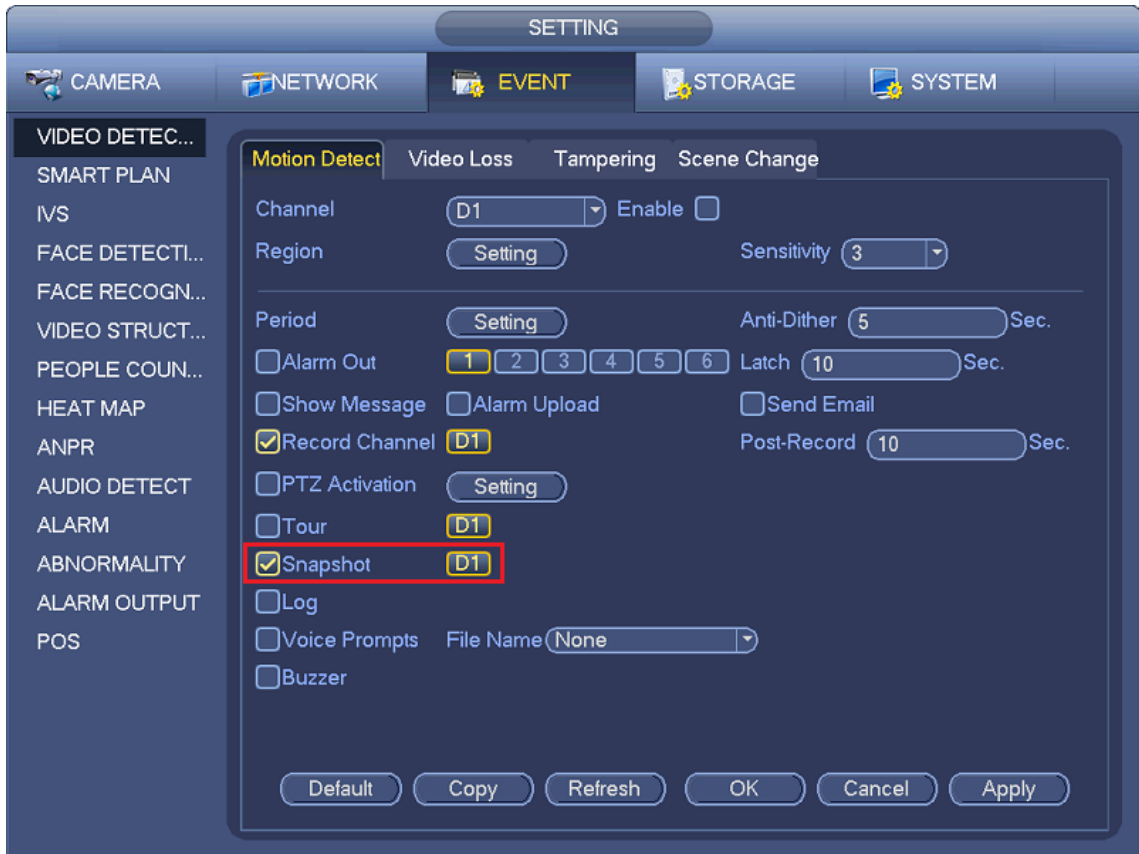

Figure 4-30
- When the record type is MD (motion detect), alarm, MD&Alarm, IVS and POS, please enable the channel snapshot function when corresponding alarm occurs. For example, when the alarm type is MD, from main menu>Setting>Event>Video Detect>Motion Detect, please select the snapshot channel and enable snapshot function. See Figure 4-30.